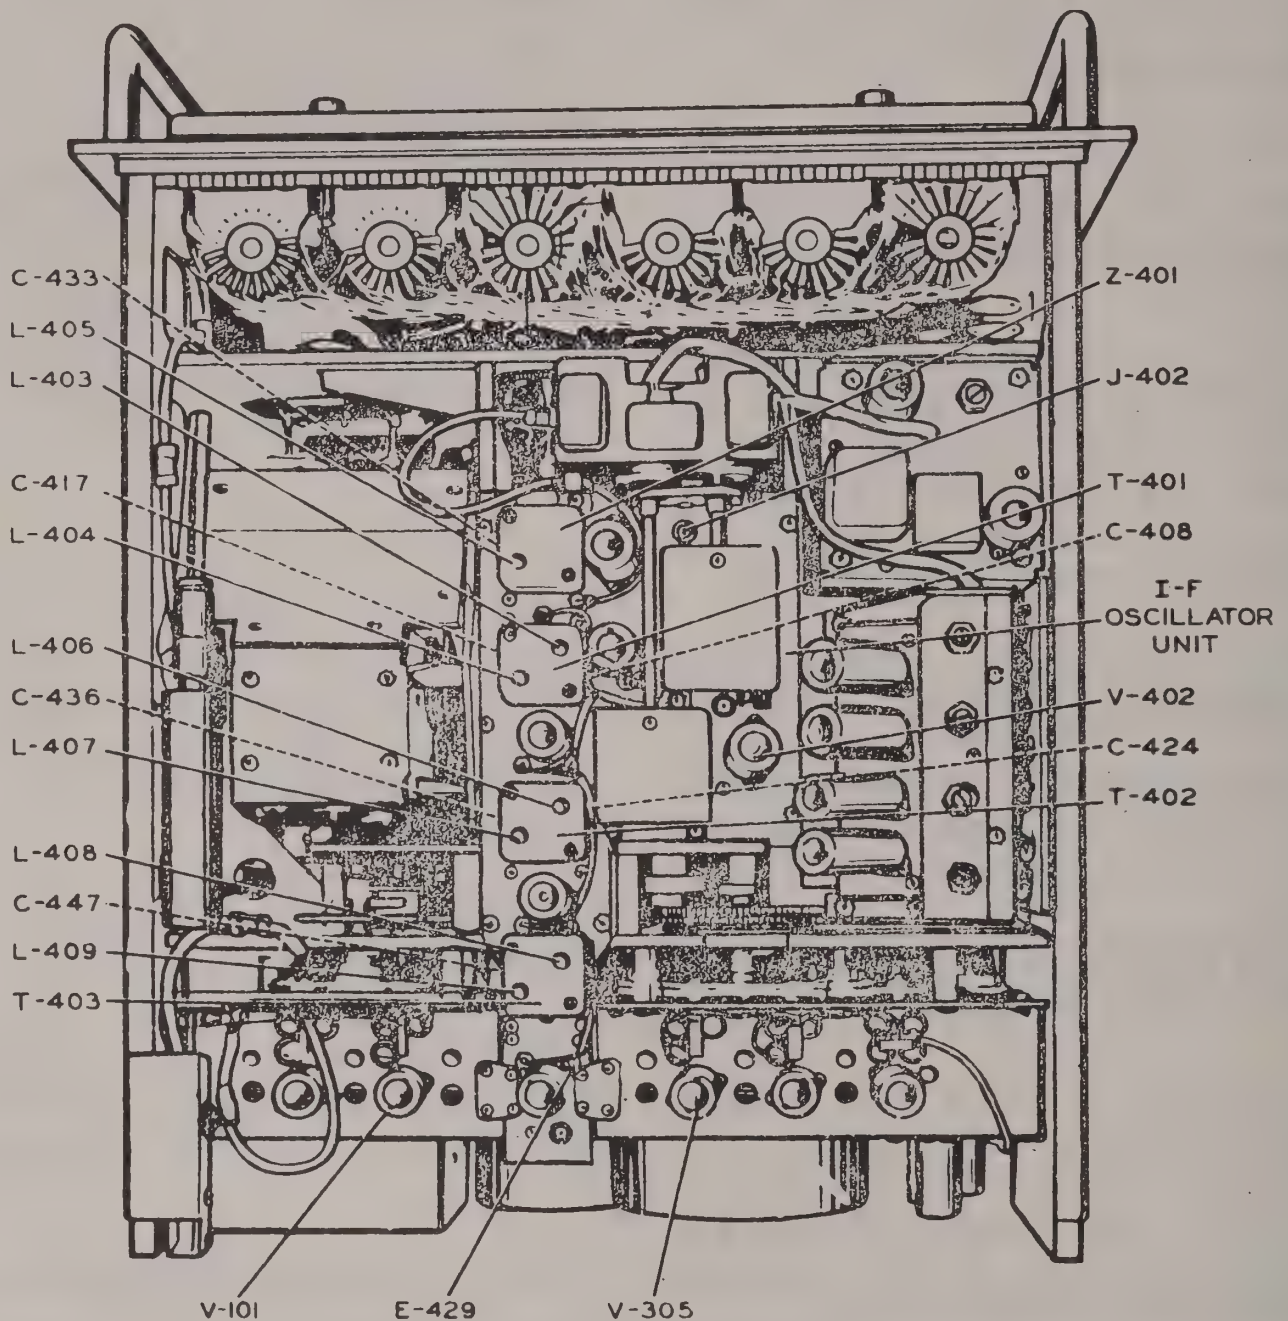

Figure 3-14 Radio Transmitter T-217A/GR, Top View, Cover Removed
L-405, L-406, L-407, L-408, and L-409 until the mark on the screwdriver is even with the top of the shielding cans. See Figure 3-14.
(14) Remove tubes V-305 and V-101. See Figure 3-14.
(15) Insert the brass end of the tuning wand into L-403. Leave the tuning wand inserted throughout Step (16).
(16) Tune Z-401 circuit as follows:
(a) Set the TRACKING CONTROL switch OFF and disconnect the white with red tracer lead from E-429 and insulate the exposed end of the lead. See Figure 3-14.